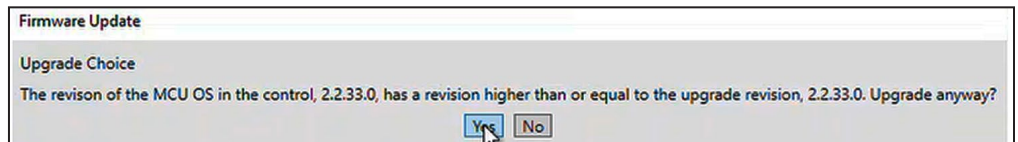

Figure 30. The MCU OS revision dialog box.
STEP 9. When any of the software components installed in the control have the same or later version number as the versions being downloaded, a message similar to that shown in the Upgrade Choice dialog box will open. S&C recommends clicking on the **Yes** button unless instructed otherwise by an S&C representative. See Figure 30.